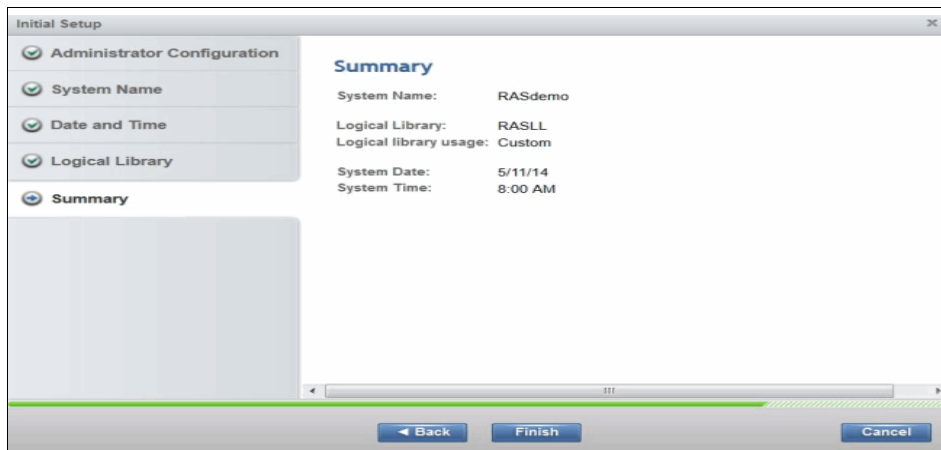

Figure 4-8 Summary
- The window that is shown in Figure 4-8 displays a summary of all of the settings that were configured in the previous steps. Select **Finish** to complete the wizard and go to the main menus.